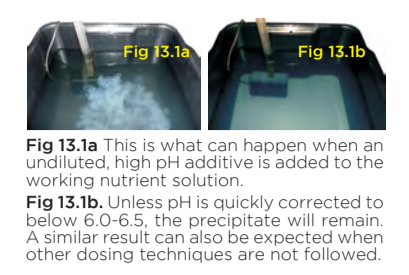

Fig 13.1a This is what can happen when an undiluted, high pH additive is added to the working nutrient solution.
- Add the majority of water before adding nutrients and additives. Never mix nutrients or additives together in their concentrated form. Once a nutrient or additive is added to the water, stir well before adding the next. High pH additives should be added last, pre-diluted into a cup of water before being added then quickly stirred and the pH checked (Fig 13.1a & b).
- Measure the nutrient solution's strength (EC) and pH. Check this once the total solution is made and 'before' feeding to the plants. Incorrect pH and EC can have a massive impact on plant performance. See sections "pH Control" and "Conductivity (EC)".